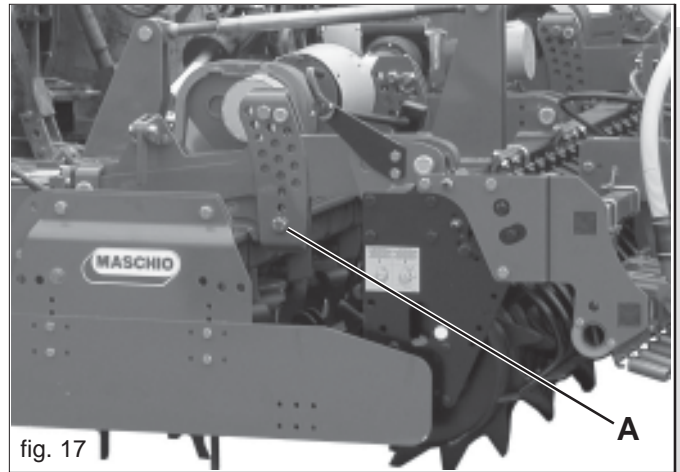

fig. 17
Before carrying out the closing procedure, ensure that the pins (A) of the lower limit stop, of the rear rollers of the rotating harrow, are in the lowered position, as shown in Figure 17.